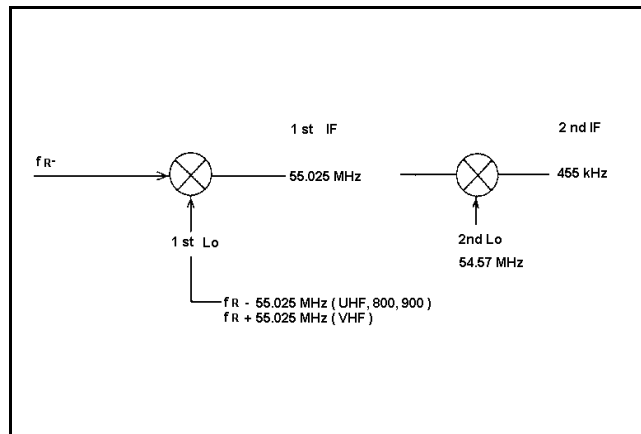
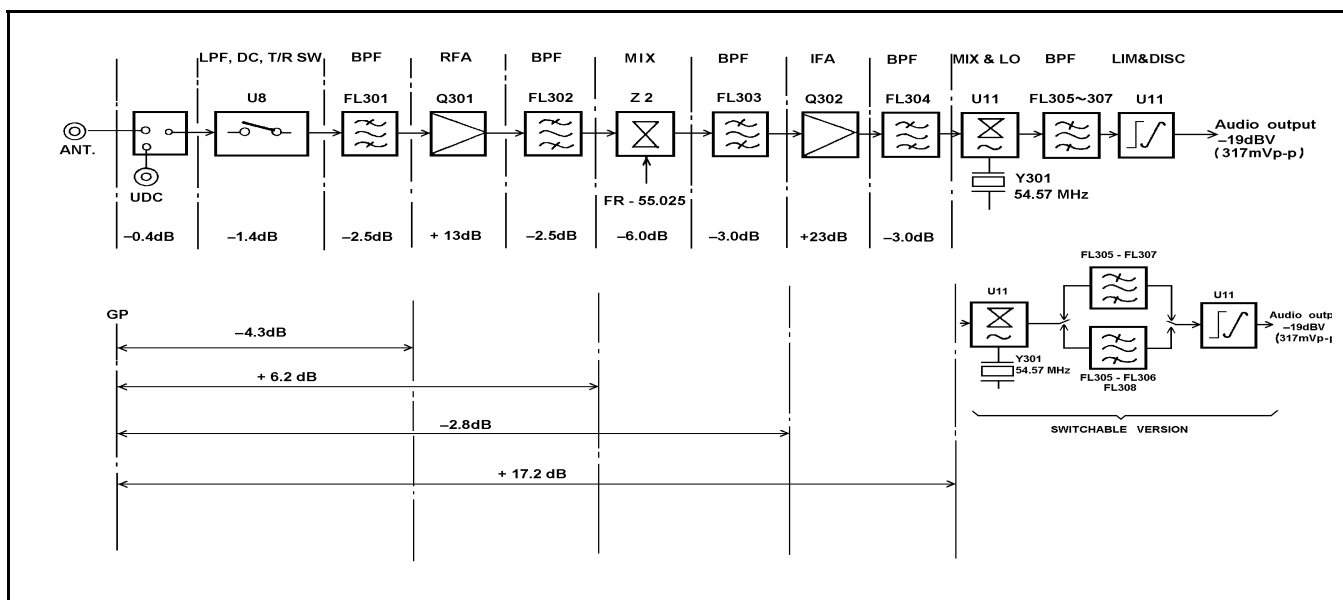

Figure 11 - Frequency Relationship Diagram
Figure 12 - Typical Level Diagram
- a. Level Diagram: A frequency Relationship Diagram is shown in Figure 11 and a Typical Level Diagram is shown in Figure 12.
- (1) C318 is provided for the adjustment of the second local oscillator.
- (2) When the desired channel frequency with standard modulation is applied to the antenna terminal, adjust C323 for maximum output at RX Audio.
- a. Check the Local Oscillator frequency. Check the frequency after connecting a frequency counter through a 1 pF capacitor to the collector of Q103. The frequency relation at various stages is shown in Figure 12. If a frequency error is 5 PPM (UHF)(2 PPM switchable) or more in the temperature range of 20° to 25°C, adjust the frequency of VCTCXO (Z1). The frequency of VCTCXO is 13.2 MHz (12.8 MHz for switchable).